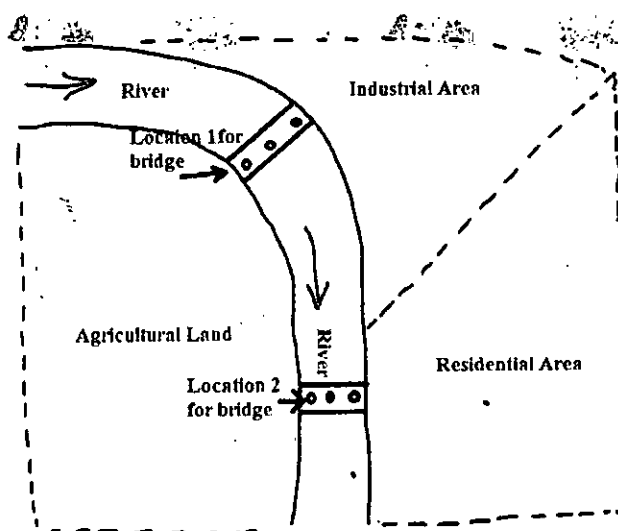

Figure 1: For question 1(a)
1. (a) Figure 1 shows an area map which includes a river. An industrial area and a residential area will be developed at the left side of the river. Right side of the river is mostly agricultural lands. i) Which part of the river reach will require bank protection works? ii) In Figure 1, two bridges are located- which bridge location is the correct one. Justify your answer. (5)
Figure 1 for Question 2(b)